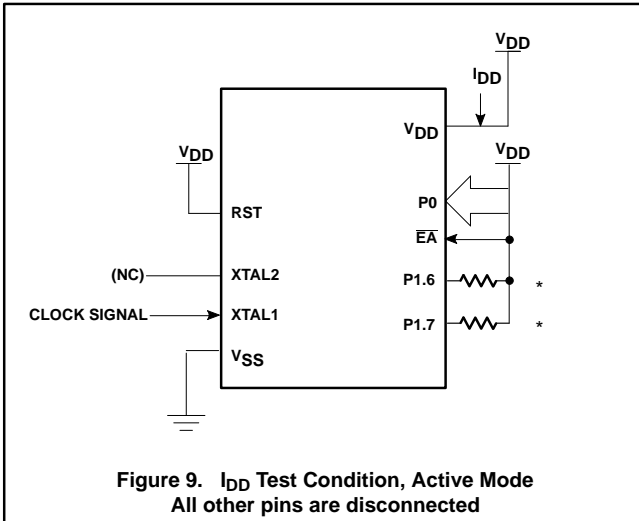

Figure 9. I_{DD} Test Condition, Active Mode
- See Figures 9 through 12 for I_{DD} test conditions.